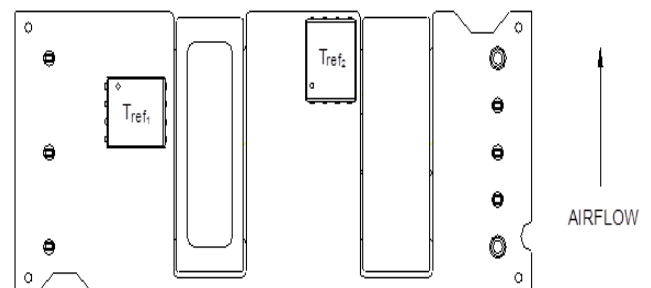
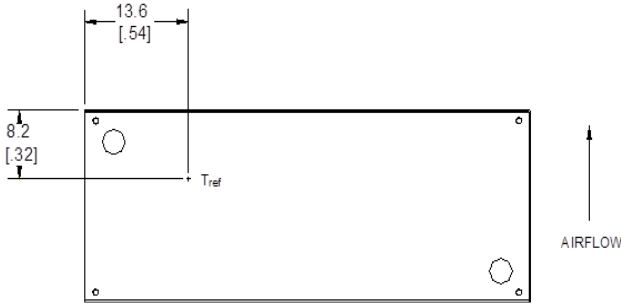

Figure 13. T_{ref} Temperature Measurement Locations for Open Frame Module.
Figure 14. T_{ref} Temperature Measurement Location for Module with Heatplate.
To provide protection under certain fault conditions, the unit is equipped with a thermal shutdown circuit. The unit will shutdown if the thermal reference point, T_{ref} , exceeds 135°C (Figure 13, typical) or 120 °C (Figure 14, typical), but the thermal shutdown is not intended as a guarantee that the unit will survive temperatures beyond its rating. The module will automatically restart upon cool-down to a safe temperature.
The thermal reference points, T_{ref1} , and T_{ref2} used in the specifications for open frame modules are shown in Figure 13. For reliable operation these temperatures should not exceed 124 °C & 121 °C respectively
The thermal reference point, T_{ref} , used in the specifications for modules with heatplate is shown in Figure 14. For reliable operation this temperature should not exceed 98°C.